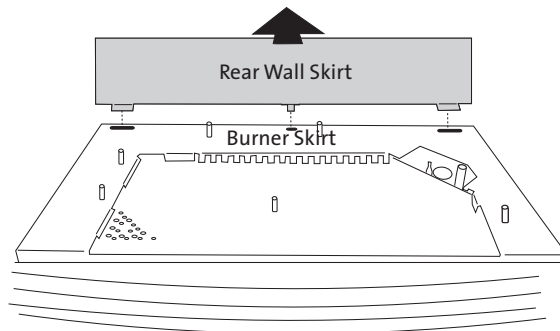

Figure 16. Lift the Rear Wall Skirt and Burner Skirts.
4. Remove the Logset and lift out the Rear Wall Skirt and Burner Skirt, fig. 16.